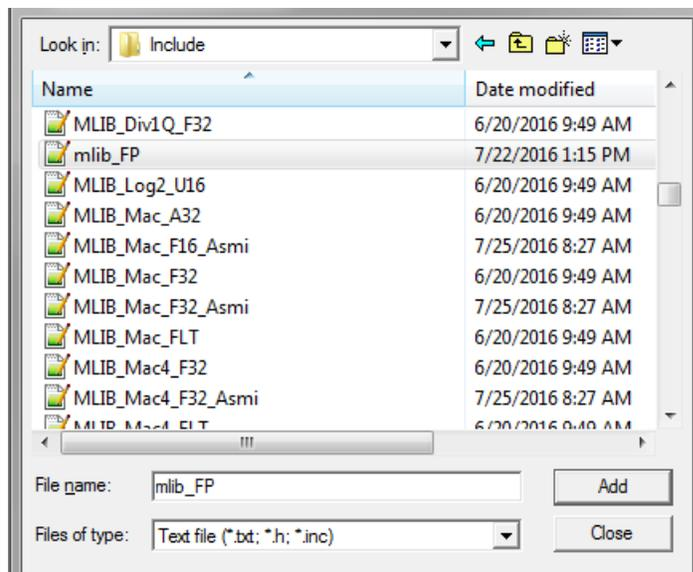

Figure 1-34. Adding .h files dialog
4. Navigate into the library installation folder C:\NXP\RTCESL\CM7F_RTCESL_4.5_KEIL\MLIB\Include, and select the `mllib_FP.h` file. If the file does not appear, set the Files of type filter to Text file. Click Add. See Figure 1-34.